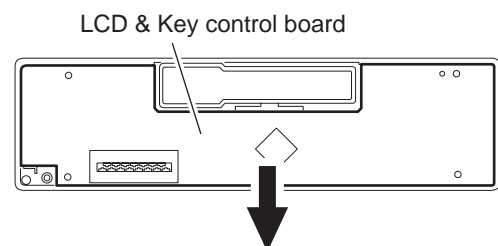

Fig.11
- (3) Remove the front board from the front panel assembly. (See fig.11)